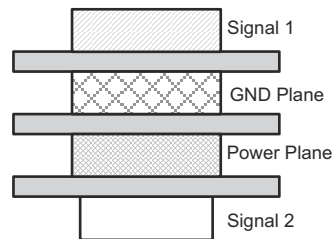

图 11-1. Four-Layer Board Stackup
- Due to high-frequency signals, a printed-circuit board with at least four layers is recommended; two signal layers separated by a ground and power layer as shown in 图 11-1.